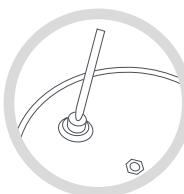

Fig. 5
1. Chimney (23). Remove the lid (1) and the rotary valve (22). Check from the inside of the lid (1) that the chimney (23) is completely clean. Otherwise, clean it with a fine rod (Fig. 5).